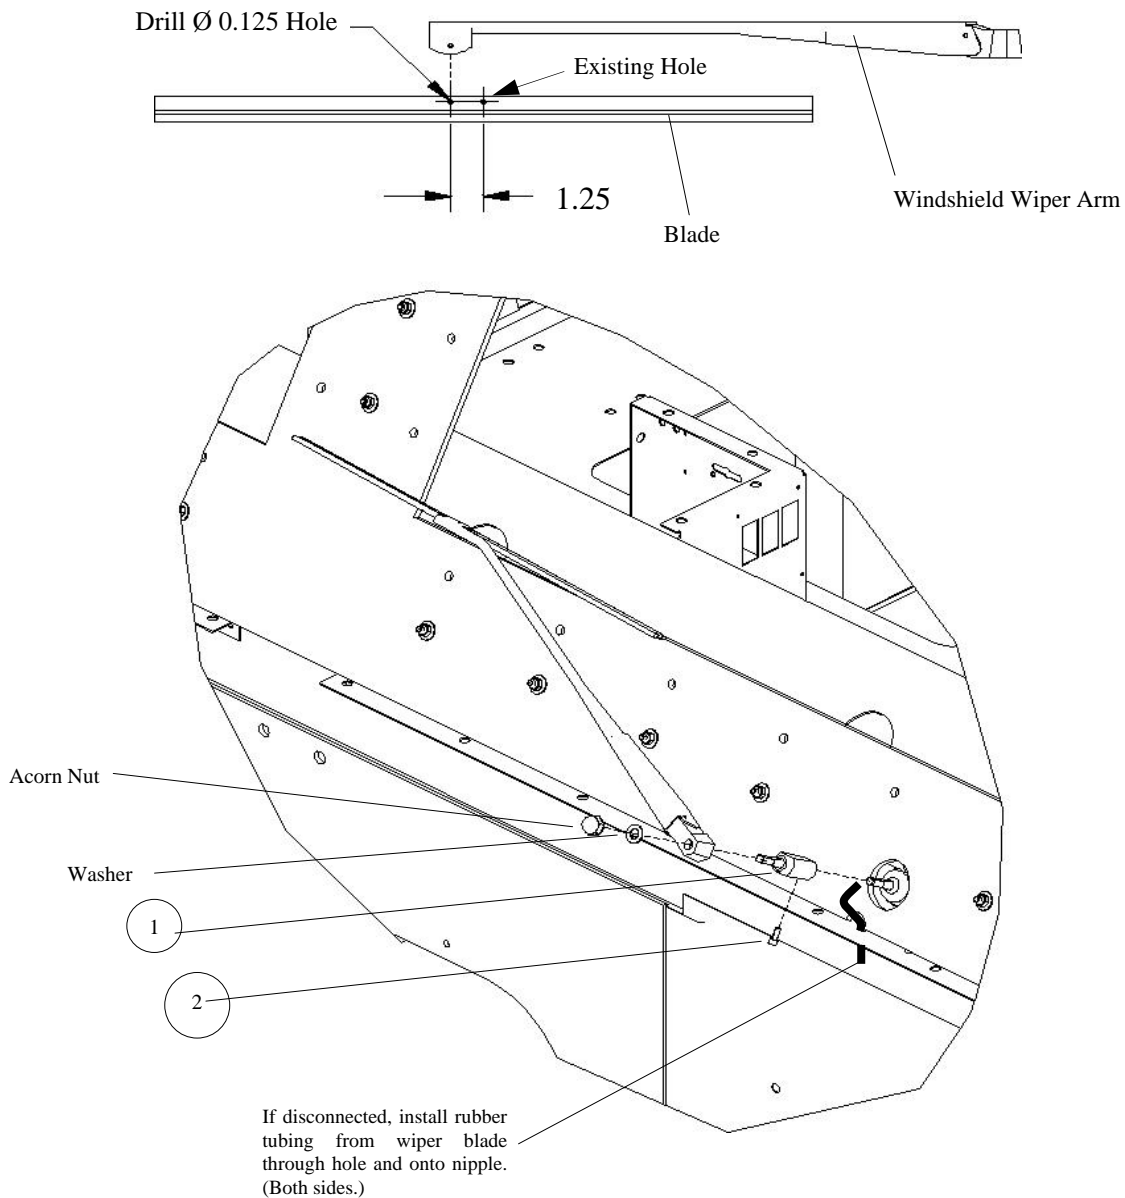

Figure 3-8. Windshield Wiper Blade Modification and Wiper Arm Installation.
7. Modify windshield wiper blade and install windshield wiper arm as follows (see Figure 3-8):
- b. Install two windshield wiper shaft extensions (1) and secure each with one screw (2).
- c. Install windshield wiper arms onto windshield wiper shaft extensions (1) and secure with acorn nuts and washers (removed in Teardown, Chapter 2) in accordance with TM 9-2320-360-20-2.